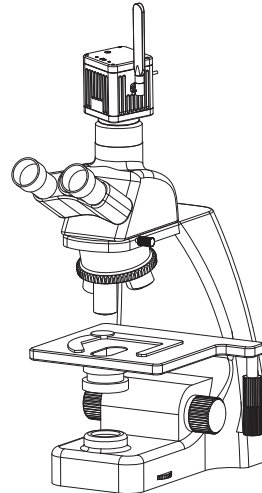

Figure 2
- (2) Snap the camera onto the dovetail slot or screw it onto the standard C -mount of the microscope, oriented as in Figure 2; tighten the fastening screws on the dovetail slot of the microscope, fix the camera on the microscope.